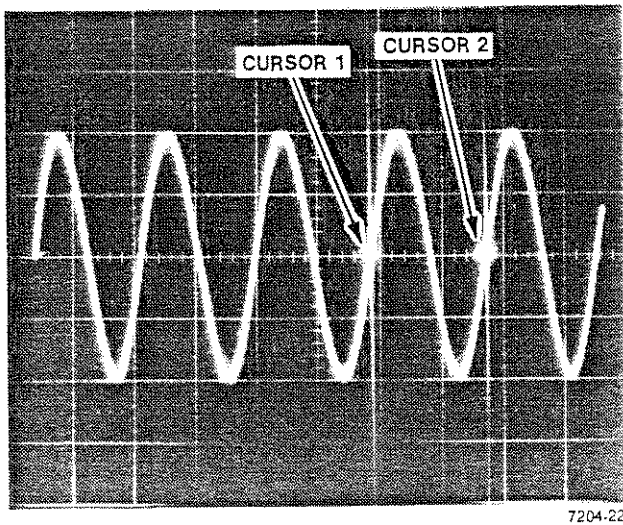

Fig. 3-53. Frequency measurement with CURSOR 1 and 2.
6. Press the CURSOR 2 key until its indicator is off, which removes Cursor 2 from the screen. Next, press the CURSOR 1 key until the CH1 DISPLAY indicator is on. Then use the Parameter Entry Knob to move CURSOR 1 as close to the midpoint of the waveform leading edge as possible while watching the voltage display. Next press the CURSOR 2 key until the CH1 DISPLAY indicator is on, then move CURSOR 2 to the middle of the leading edge of the next cycle. Adjust the cursors until the difference in their relative voltages is minimum. If 1/T/1/ $\Delta$ T is pressed at this point, a measurement of the frequency of one cycle of waveform between CURSOR 1 and CURSOR 2 can be made (Fig. 3-53).